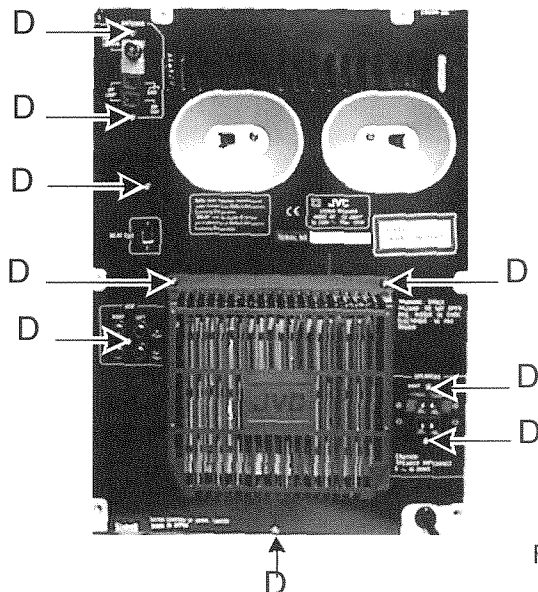

Fig.5
1. Remove 9 screws (D) fastening rear side and remove the heat sink cover (Fig. 5).
2. Remove 3 screws (D) holding the heat sink.